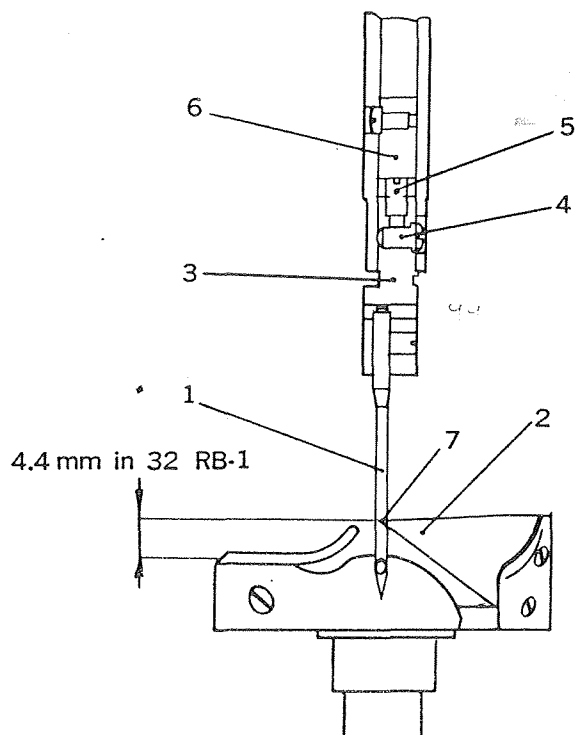

FIG. 44
ADJUSTING THE HEIGHT OF THE NEEDLE CLAMPS (Fig. 44, 45)
- 3) Turn hook only so that hook point comes to the needle as (7) Fig. 44.
- 4) To correctly adjust the position of the needles (1) relative to hook points (2), remove the needle clamps (3) from their respective needle bars by removing needle clamp set screw (4). Upon removing the needle clamps, needle clamp adjusting screw (5) become accessible. Turn adjusting screw (5) either in or out to obtain the 4.4mm (11/64") distance between the eye of the needle when at its lowest position and the hook point Fig. 44 after the needle clamps with needles have been replaced on the needle bars.